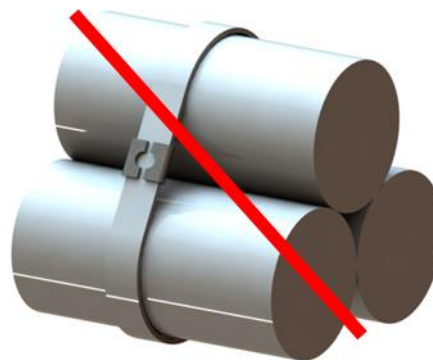

Figure 30
- Buckle locations cannot be over air gaps (Fig. 30)